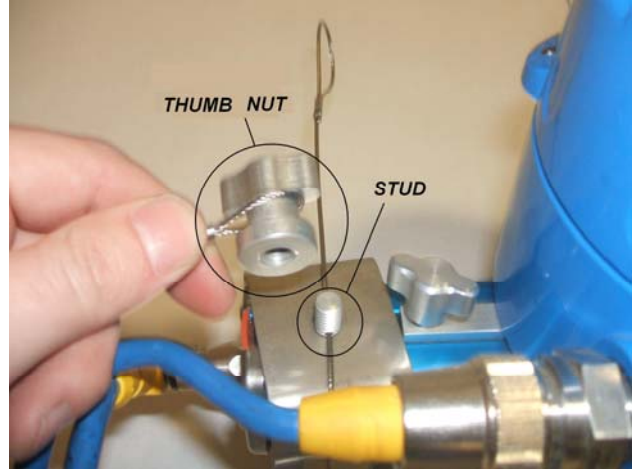

Figure 6
Step 4: Align bottom bracket, using the 2nd bolt if possible. Wrap thumb nut end of the cable around the entire gauge and begin to thread. Pull the cable loop as tight as possible and fully tighten the thumb nut down as shown in Figure 6. The lower bracket should now be tight and secure.